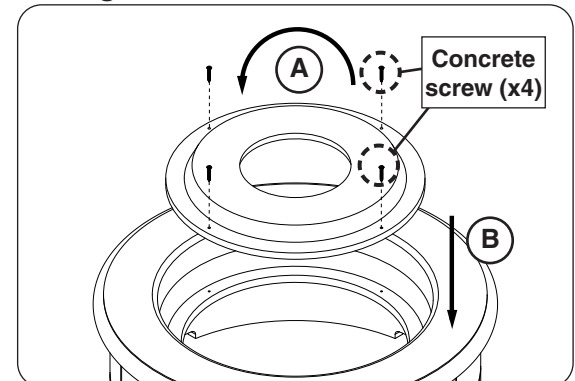

Fig. 33-5 Flip and install refractory panel
2. Flip the refractory panel and align the pilot holes. Re-install the 4 concrete screws (see Fig. 33-5).